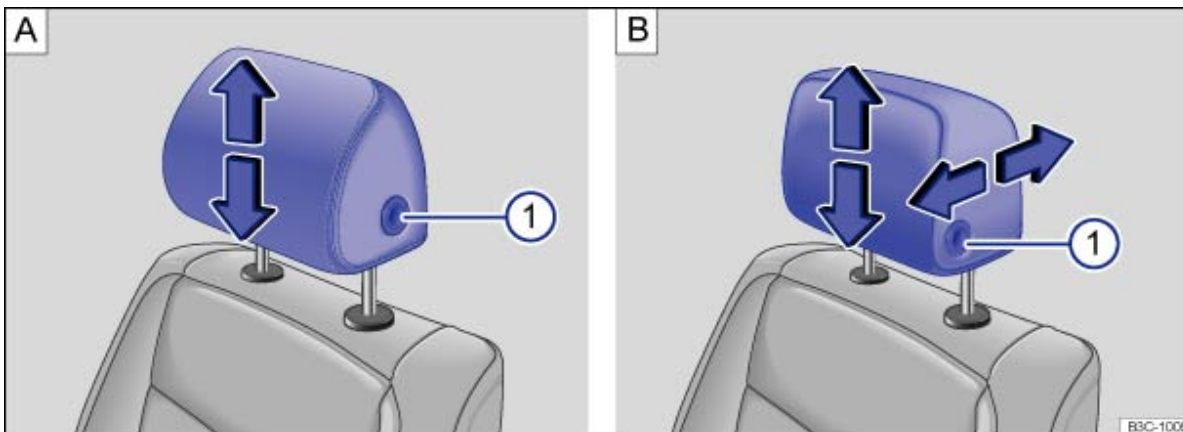
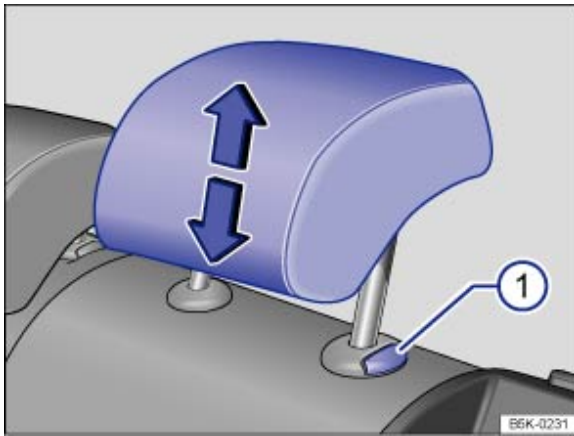

Fig. 45 Adjusting front head restraints: for vehicles without (A) and with (B) with longitudinally adjustable head restraints
Fig. 46 Adjusting rear head restraint
- Push the head restraint up in the direction of the arrow or push it down with the button pressed → Fig. 45 or → Fig. 46 → .
- Push the head restraint forwards in the direction of the arrow or push it backwards with the button pressed → Fig. 45 **B** .